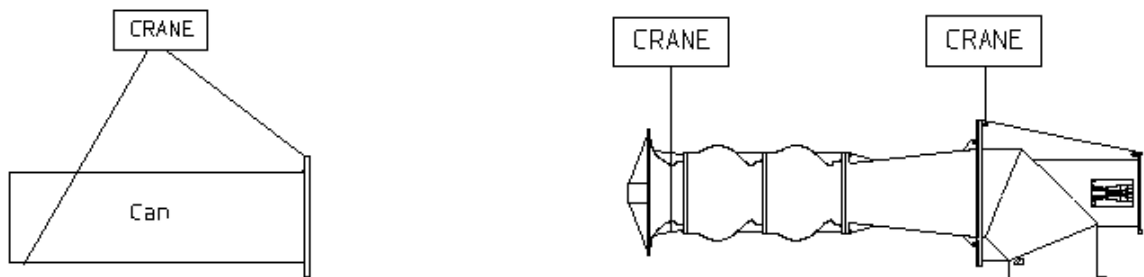

FIGURE 3.3 (FASTENING SPOTS FOR HORIZONTAL TRANSPORT)
3.1.4 Fastening spots for units In case lifting lugs or bars are attached at the pump, the unpacked unit has to be fastened at these spots by shackling the sling. The pump can also be lifted by slings which are laid around certain parts of the pump. See Figure 3.3 and 3.4.